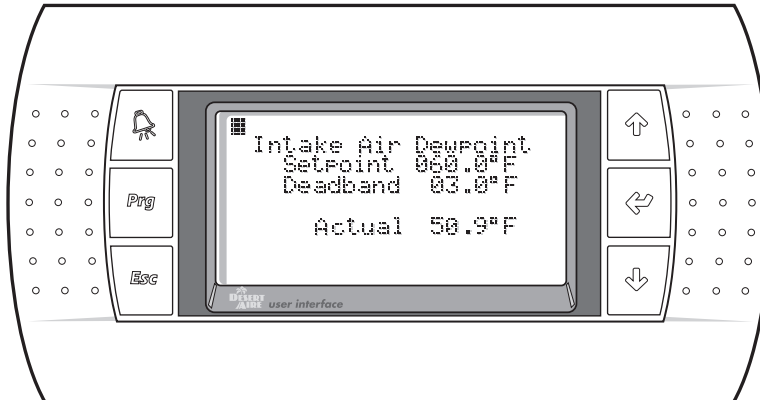

Figure 42
2.6.1.1 Intake Air Dewpoint (Figure 42)